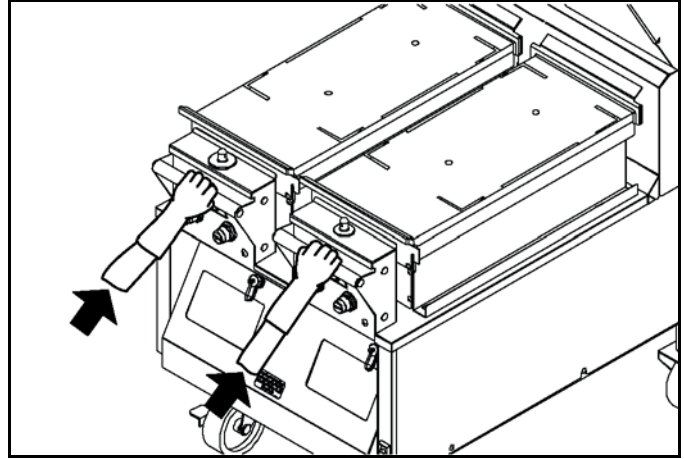

Figure-119
26. Pull out the grill. See Figure-119.